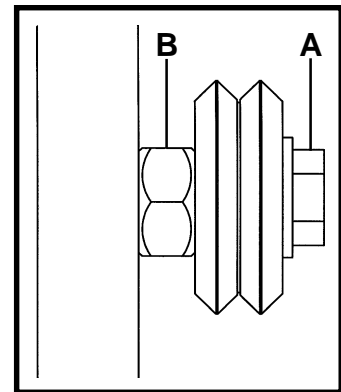

Figure 1: Adjustable Wheel
The CWP-11 Motorized Racking System (CBP-1640) and the Large Horizontal Racker (CWO-1690) are equipped with adjustable wheels. Always check these components for proper wheel adjustment before using the machine. Adjust the wheels if you can cock or wiggle the components out of alignment. The wheels should be snug but not prohibit movement along the path of travel. The wheels with the hex stand-offs (shown in Figure 1) are adjustable. To adjust the wheels, loosen the hex bolt (A) until the eccentric bushing (B) can be rotated. Correct the wheel alignment by rotating the eccentric bushing (B). Once adjusted, hold the eccentric bushing (B) while tightening the hex bolt (A). Recheck alignment.